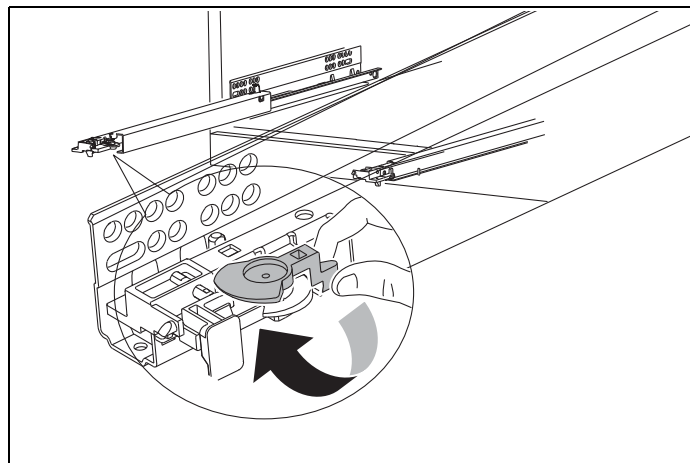

Fig. 10
- To lift the appliance in the front (max 2 mm), turn the latch as shown in Fig. 10 .